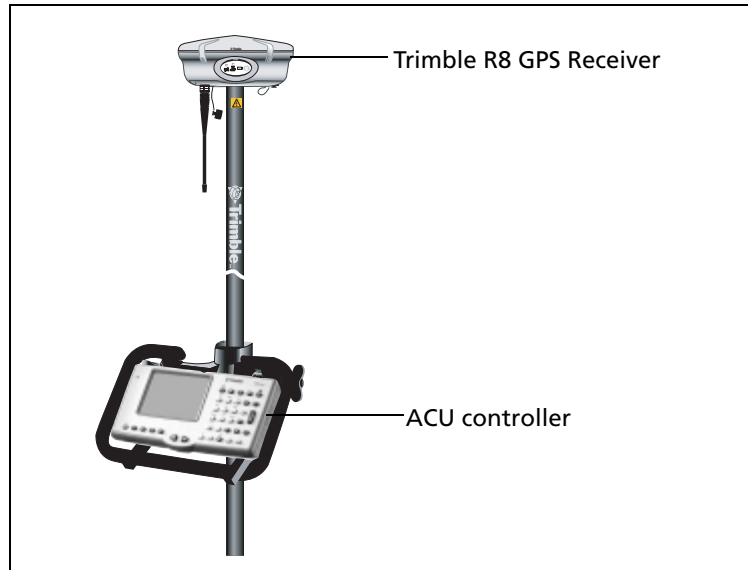

Figure 13.3 Trimble R8 receiver pole-mounted setup
Figure 13.3 on page 113 shows the pole-mounted setup for the Trimble R8 receiver. To mount the receiver on a range pole:
**Note** – When using the Trimble ACU, or TSCe controller with BlueCap module, no cabling is required, as shown in Figure 13.3.